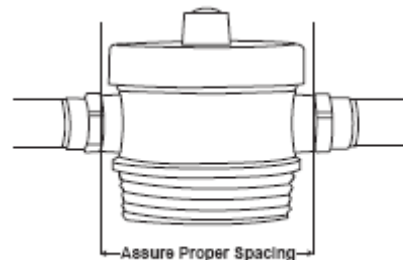

Figure 2
4. Calculate proper spacing of components (approximately 3/4" (1,91 cm) of existing pipe inserts into each fitting). (See Figure 2.)